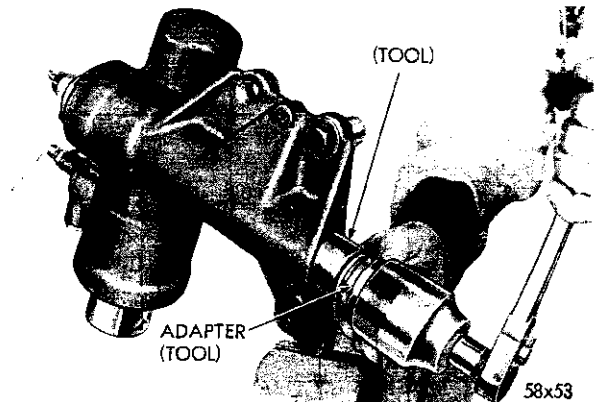

Fig. 41—Installing the Gear Shaft Oil Seal
(1) Install the gear shaft bearings into the housing with driver, Tool C-3333 (lettered end of the bearings against the driver tool). Drive the bearings to $\frac{1}{8}$ inch below the edge of the counterbore.
(2) Install the gear shaft oil seal into the housing (lip of seal toward needle bearing) with adapter SP-3052 and Tool C-3350 as follows:
a. Place the long lip of the adapter against the seal and thread the tool nut on the threaded end of the gear shaft (Fig. 41).